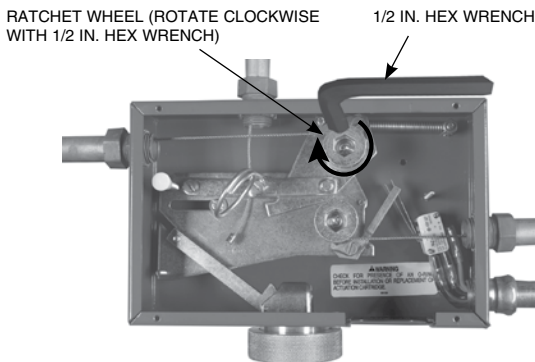

FIGURE 9
- a. Using a 1/2 in. hex wrench, slightly turn the spring plate ratchet wheel clockwise to relieve pressure on the pawl lock. See Figure 9.